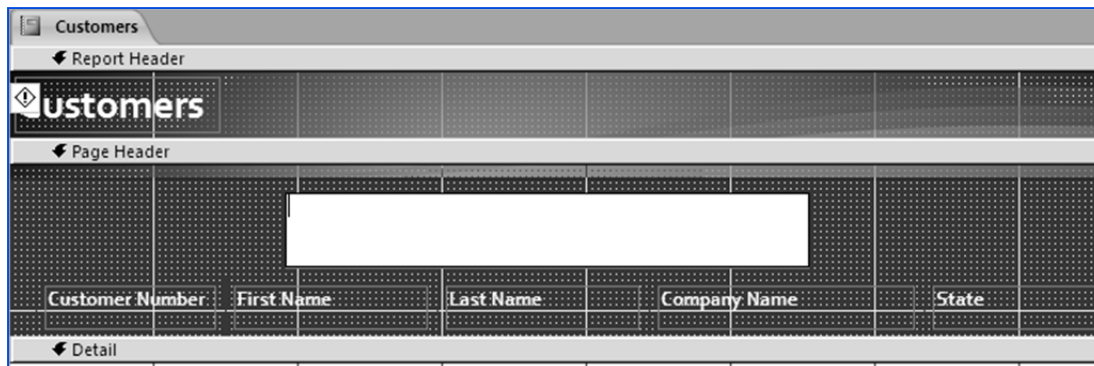

Fig. 2.4.3: Add Label to Page Header
2. Expand the *Page Header* section. Select a label control  from *Design ribbon* -> *Controls* tab and draw it on the *Page Header* section, as indicated in Fig. 2.4.3.